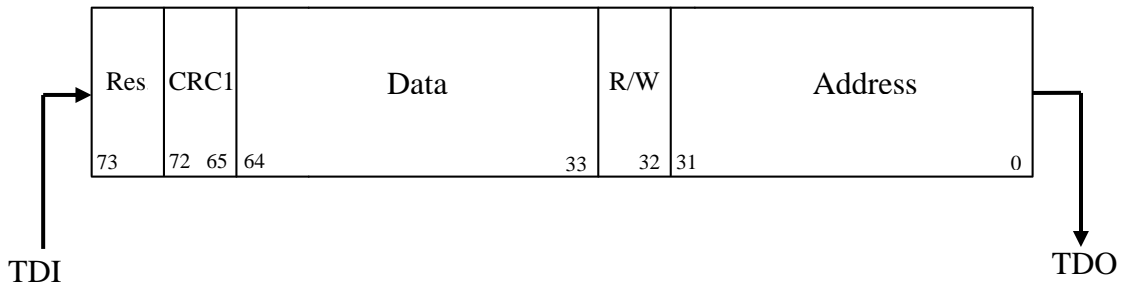

Figure 4: OpenRISC Debug Interface Scan Chain (data shifted in)
- ✓ CRC1 is shifted in (Figure 4: OpenRISC Debug Interface Scan Chain (data shifted in)). The host calculates it from the address, the R/W bit, and data that is sent in.